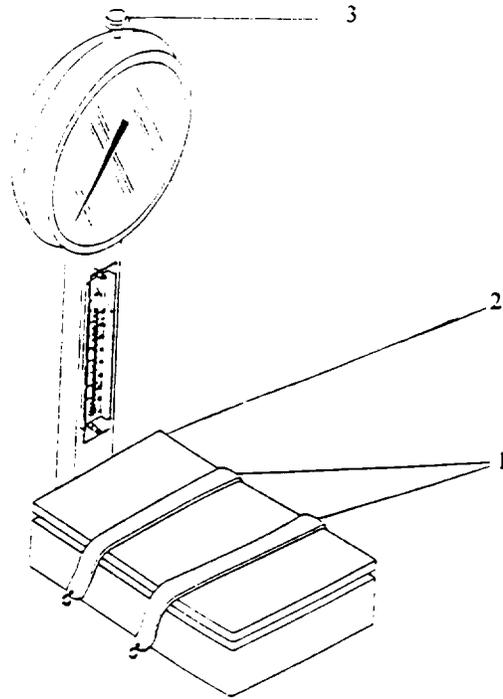

Figure 4-5. Scale Replacement
- (1) Turn the four adjustable feet (7) until the scale is resting firmly at each corner on the supporting surface.
- (2) Verify the scale is level by observing the leveling device attached to the side of the column assembly. The plum rod should be centered as closely as possible for the best results.
- (3) Using the lock nuts loosened in para d, above, lock each adjustable foot in position.
- k. Adjust the zero balance device (3, Figure 4-5) to obtain a zero reading. Turning the zero balance clockwise causes the indicator assembly to move clockwise. Turing the zero balance device counterclockwise causes the indicator assembly to move counterclockwise.
4-13 SCALE REPLACEMENT. (Refer to Figure 4-5)